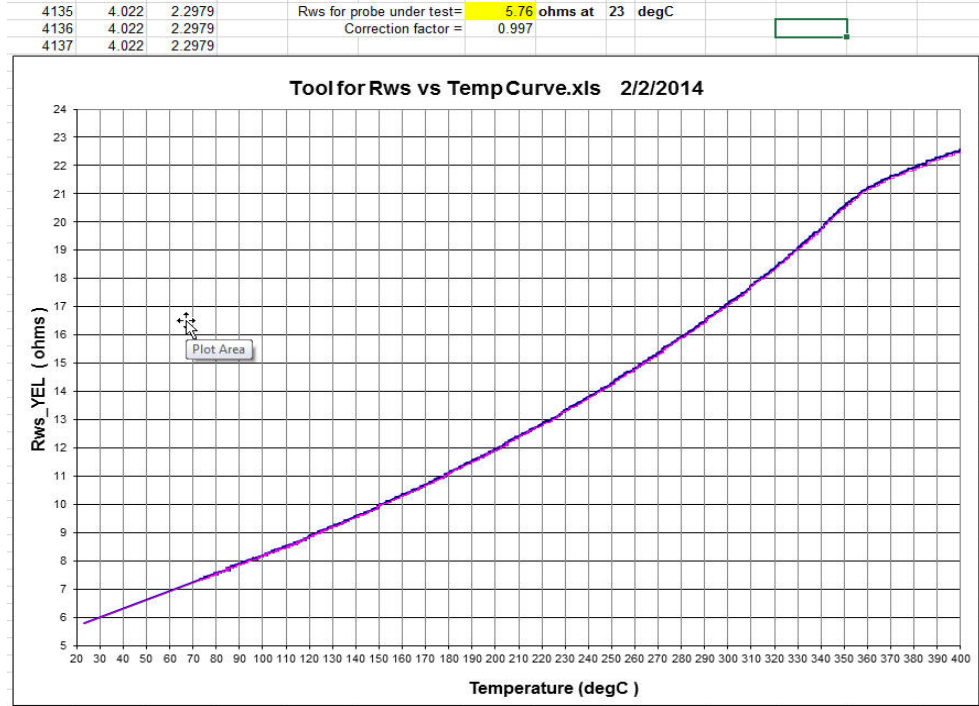

Figure 8. Tool for Rws Vs Temperature
2. With it's Given R_{ws} @ 23 C equals 5.74 ohms use the "Tool for R_{ws} vs Temp Curve" to find the value of R_{ws} at 380 C, that would be 21.8 ohms. See Figure 8